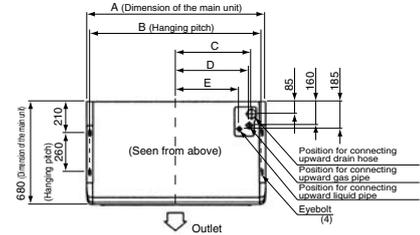

Figure 3
- (1) Select the position of the pipe outage, the drain pipe outage, and the wiring outage, and make holes in those positions. The locations are displayed on the installation pattern paper attached to the indoor unit, so use the paper pattern. (Figure 3)